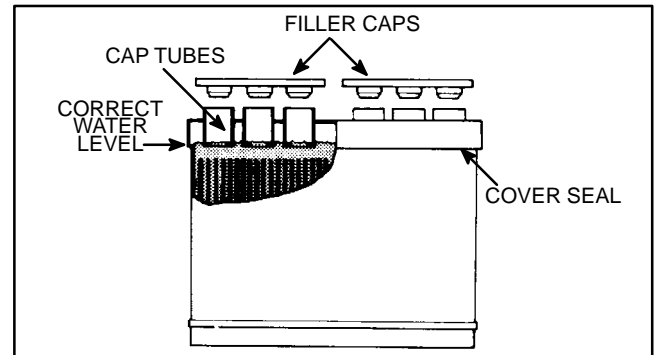

Figure 25
- F. Apply a test load of one half the Cranking Performance rating (see Fig. 25) of the battery for 15 seconds.